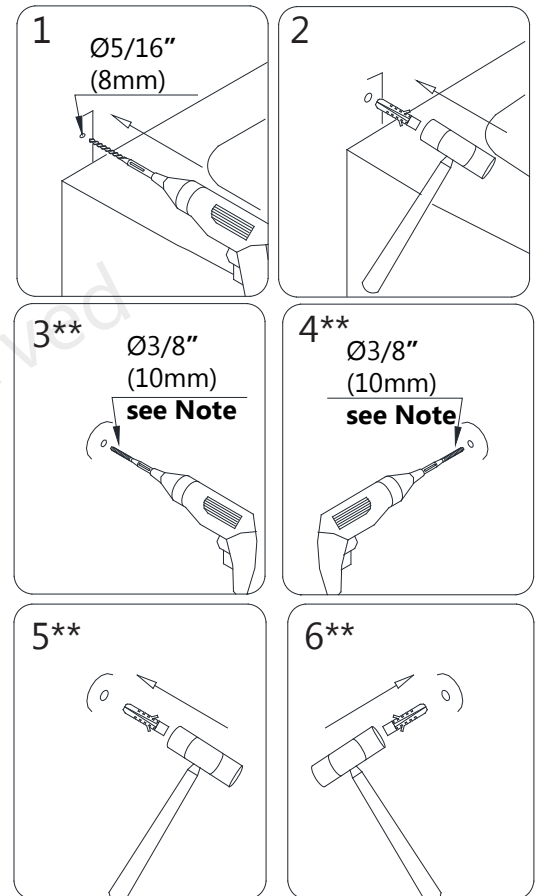

Fig 7
****If installing into a stud (recommended), drill a $\text{Ø}1/4"$ hole and do not use the wall anchors (see note above). (Fig 7)**